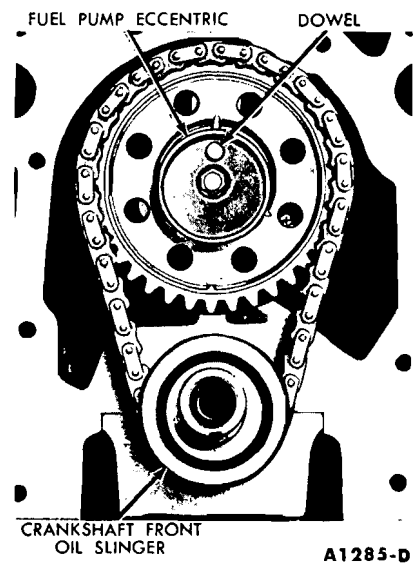

FIG. 46—Fuel Pump Eccentric and Front Oil Slinger Installed
2. Install the fuel pump eccentric and the camshaft sprocket cap screw (Fig. 46). Torque the sprocket cap screw to specifications. Install the crankshaft front oil slinger.
4. Install the fuel pump eccentric and the camshaft sprocket cap screw (Fig. 46). Torque the sprocket cap screw to specifications. Install the front oil slinger.